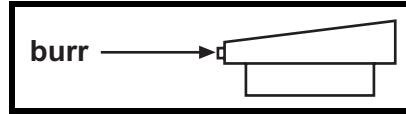
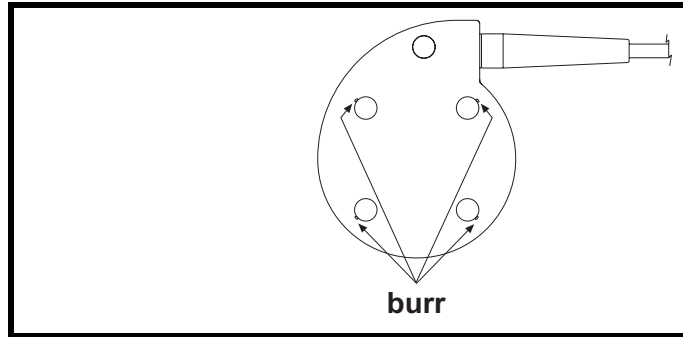

Figure 7-10. Curved Screw Cap Shape, Nautilus Transducer
Figure 7-11. Curved Screw Cap Alignment, Nautilus Transducer
4. Apply one drop of Loctite adhesive1 to the perimeter of the hole for a curved screw cap. Insert the curved screw cap being careful to align it according to the curvature of the case top; the small burr on the screw cap side should face the outside edge of the transducer. (See Figure 7-10 and Figure 7-11.) Press the screw cap firmly into place. Repeat for the remaining three curved screw caps.